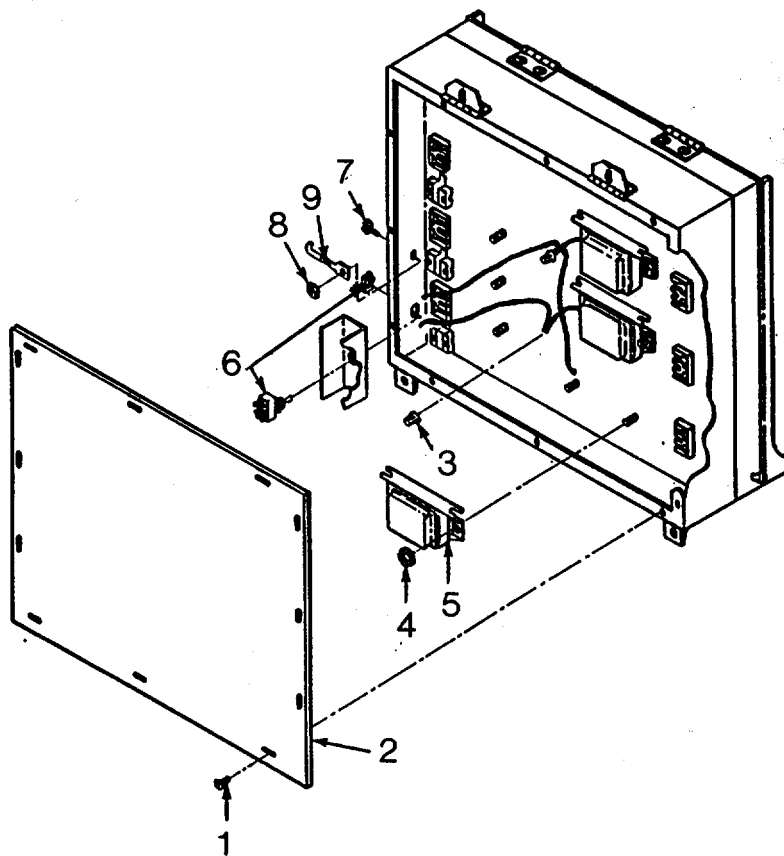

Figure 4-30. Viewing Light, Rear View
- (11) Rotate starters (3) counterclockwise and remove from socket.
- (12) Remove screws (1, Figure 4-30).
- (13) Remove back cover (2).
- (14) Remove wire nuts (3).
(35) Install shipping bracket (9) and thumbscrew (8).
(36) Install plug (12), chain (11), and thumbscrew (10).
c. Repair. (See Figure 4-30.)